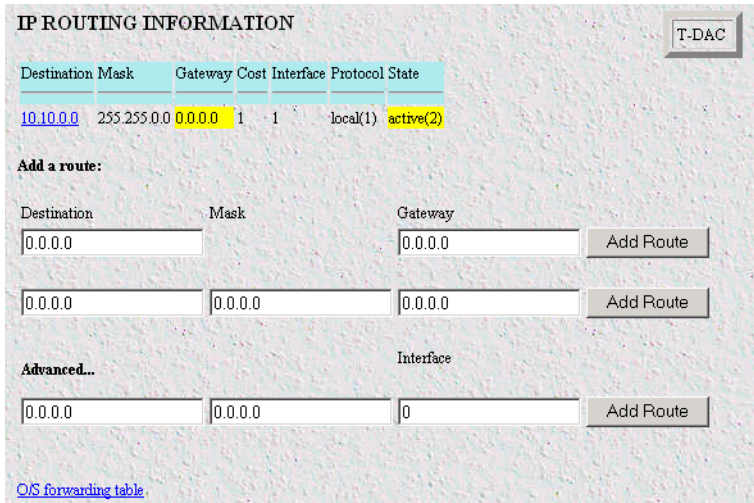

Figure 24. IP Routing Information Page
- Click the *Routing Info* hyperlink to open the **IP Routing Information** page (figure 24).